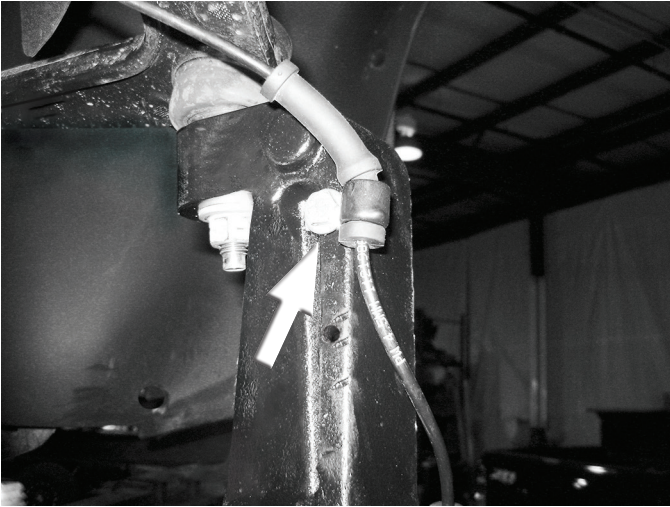

FIGURE 6
- There are two threaded holes near the top of the steering knuckle neck, inboard side. Using a provided wire clamp, 1/4" x 5/8" bolt and 1/4" lock washer (BP 590), loosely attach the ABS line to the upper threaded hole on the back side of the steering knuckle (Fig 6). Fasten the